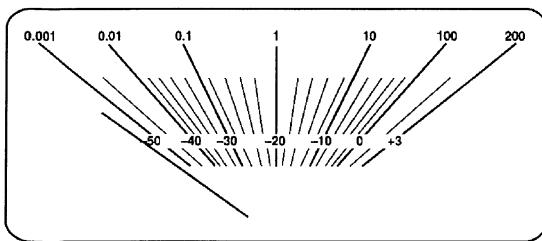

Fig.3
3. Turn the power ON, make sure that the power meter is mechanically adjusted to 0 point. Shown in Fig.3